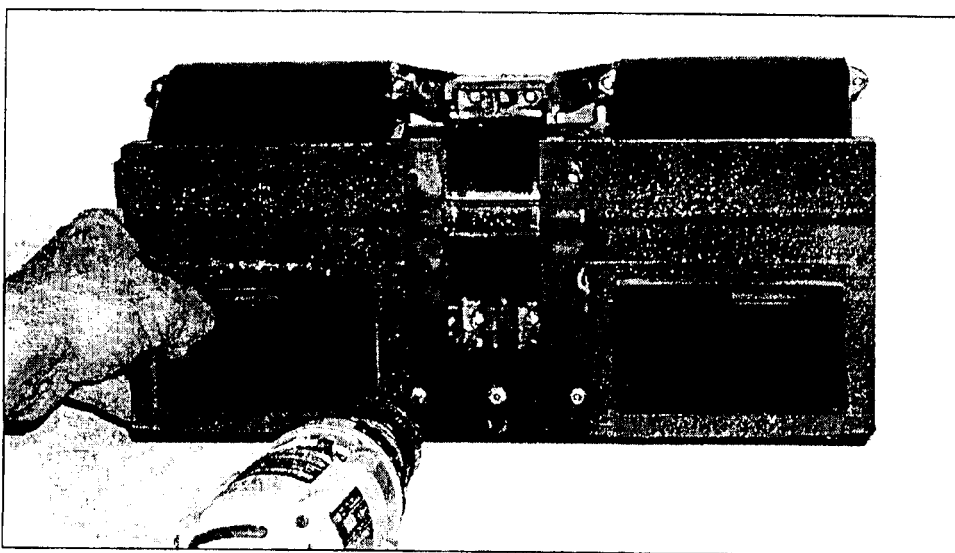
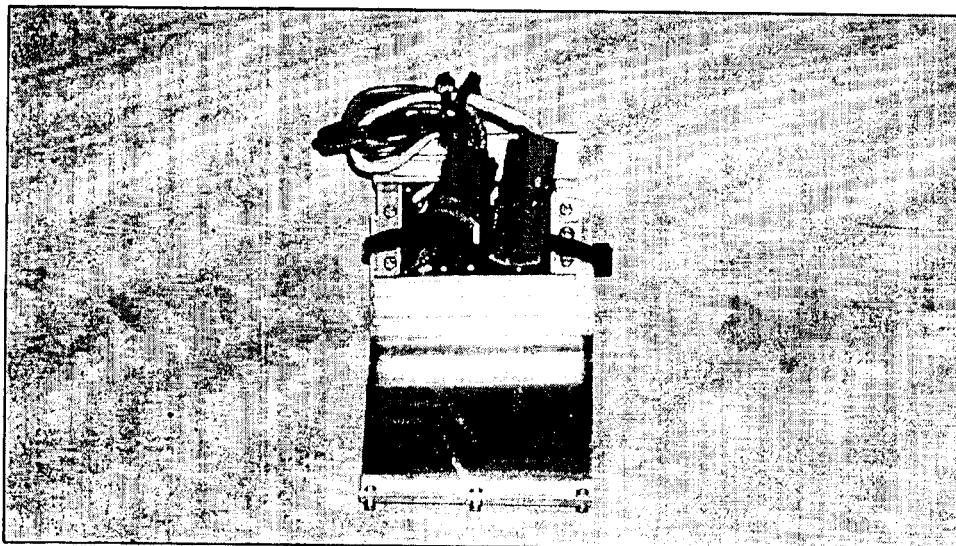

Figure 6.
Figure 7. Existing speed controller.
10. Carefully drill out the three rivets (Figure 6). Remove and retain the existing speed controllers (Figure 7), as they are required to be returned to MCI.